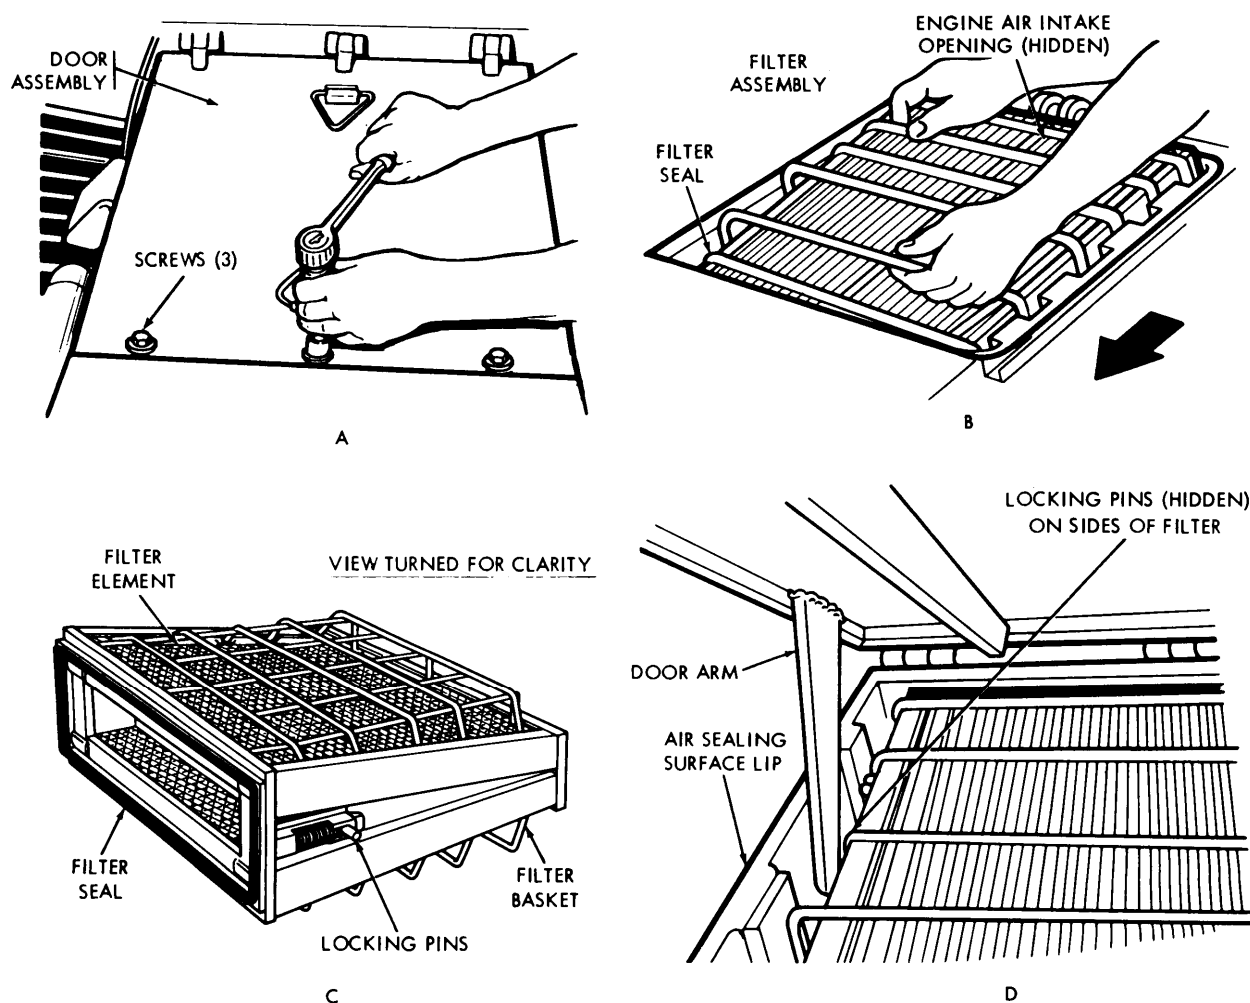

Figure 6-12. Air cleaner filter element replacement and inspection.
b. *Removal (Fig. 6-12).*
- (1) Kneel on air cleaner door assembly and remove three screws securing door assembly to air cleaner.
c. *Inspection and Cleaning (Fig. 6-12, View C).*
- (e) If filter is contaminated with dust, clean with compressed air or by washing (para. (2)(b) below).
- (3) *Emergency cleaning.* If necessary to clean filter element and neither compressor not washing facilities are available, filter can be partially cleaned by gently tapping it with the palm of hand. Care must be taken to avoid damage to filter element. Banging, hitting, or tapping may cause deformation and permanent damage to filter element.
- (4) Inspection. Inspect filter element carefully for damage after cleaning. Check for rupture in filter material or damage to seal. To detect filter material rupture, place a light inside filter element and inspect from outside. If ruptured, replace with new filter element.
d. Installation (Fig. 6-12).